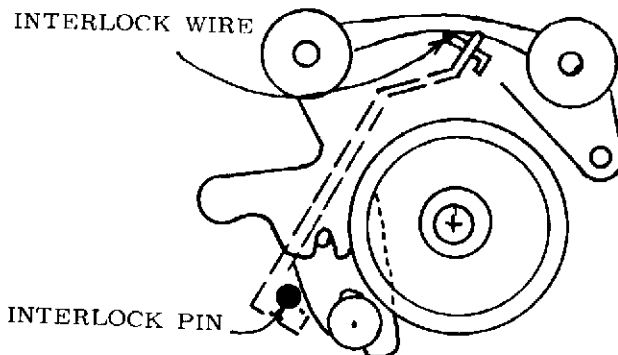

Figure 3-40. SOLENOID INTERLOCK
- When located correctly, this solenoid will depress feed clutch interlock and also the lens mount interlock. In rewind operation, a 1/8" diameter pin (Fig. 3-40) behind the front lobster claw (front idler bracket) will pop out and the control lever is locked down and the lens mount open.